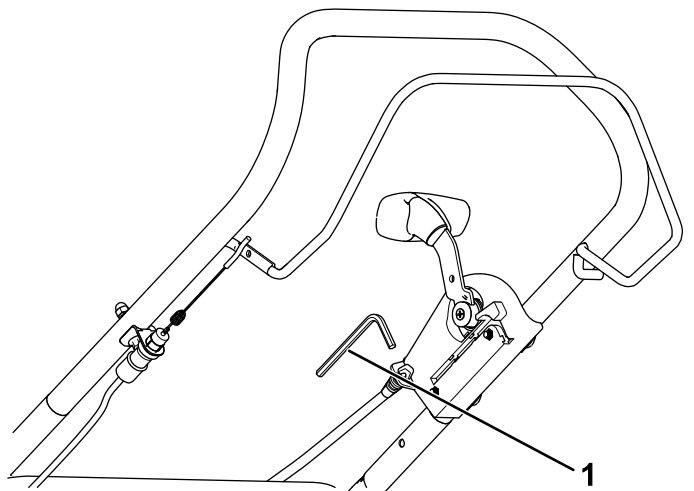

Figure 18
2. Remove the hex wrench from the transport lever assembly (Figure 18).